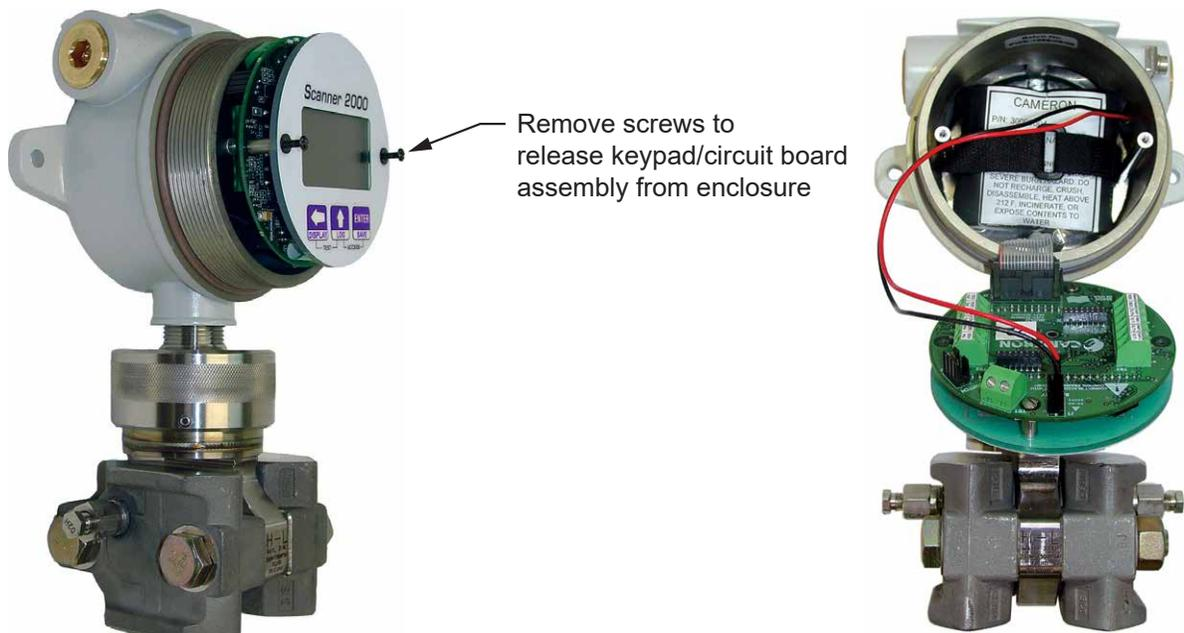

Figure 5.1 - Removal of the battery pack from the enclosure
2. Using a small standard blade screwdriver, remove the two #4-40 × 7/8-in. screws located to the right and left side of the display (Figure 5.1, page 80).
- Loosen the velcro strap, disconnect the battery from the J1 connector on the circuit assembly, and remove the spent battery pack from the enclosure (Figure 5.1).
2. Using a small standard blade screwdriver, remove the two #4-40 × 7/8-in. screws located to the right and leftside of the display (Figure 5.1, page 80).